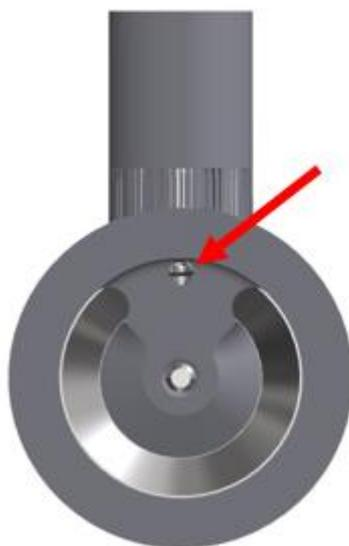

Fig. 2 Exhaust bore of pilot valve
- » During installation make sure the exhaust bore of the pilot valve is not covered by the flange gasket on the outlet (see Fig. 2).